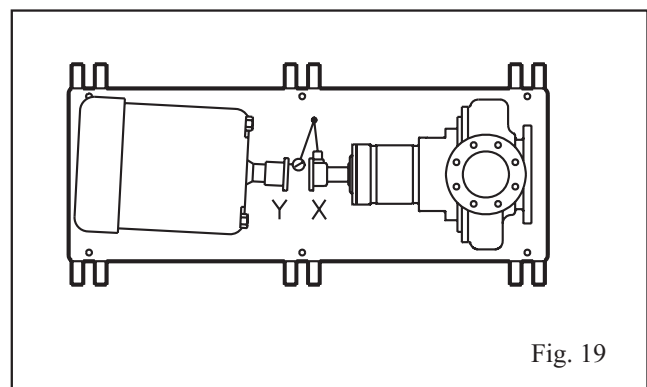

Fig. 19
Positive Reading - The coupling halves are closer together on the right side than the left. Correct by either sliding the shaft end of the driver to the right or the other end to the left (Fig. 19).
1. Zero indicator P at top dead center of coupling (12 o'clock) half Y (Fig. 19).